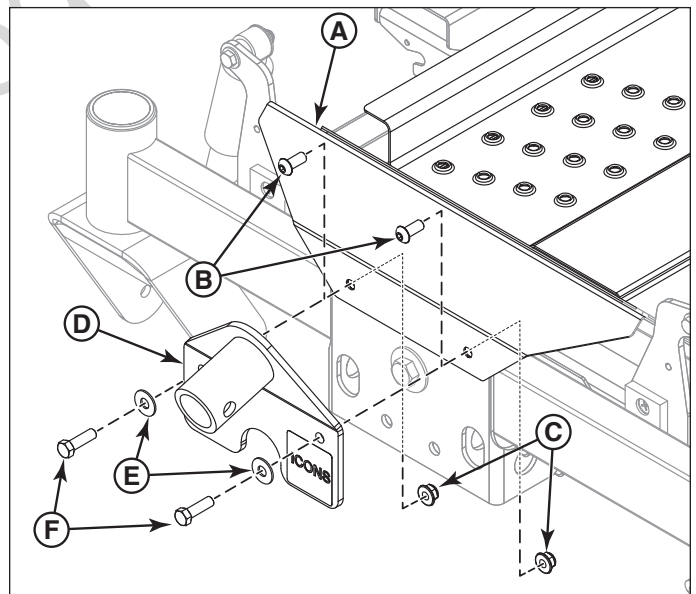

Figure 1. Installing the Jack Plate
2. Remove the two (2) 3/8 socket head screws (A, Figure 1) and 3/8 nylock flange nuts (B) that secure the front of the foot plate (C) to the zero-turn rider.